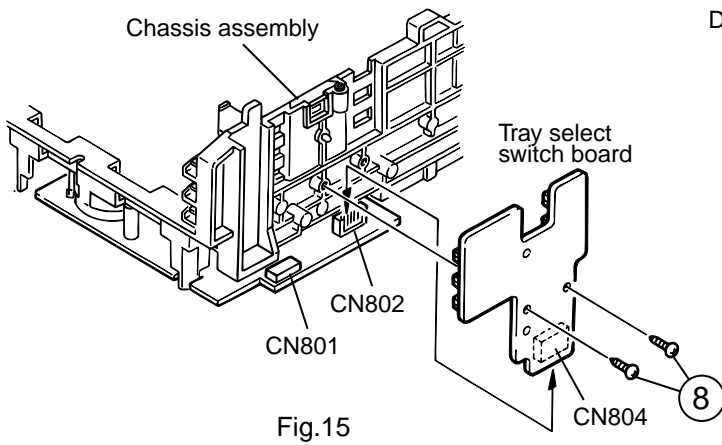

Fig.15
3. Remove the two screws 8 retaining the tray select switch board(See Fig.15).
(See Fig.15~18)**
2. While turning the cam gear L, align the pawl "N" position of the drive unit to the notch position(Fig.15) on the cam gear L.